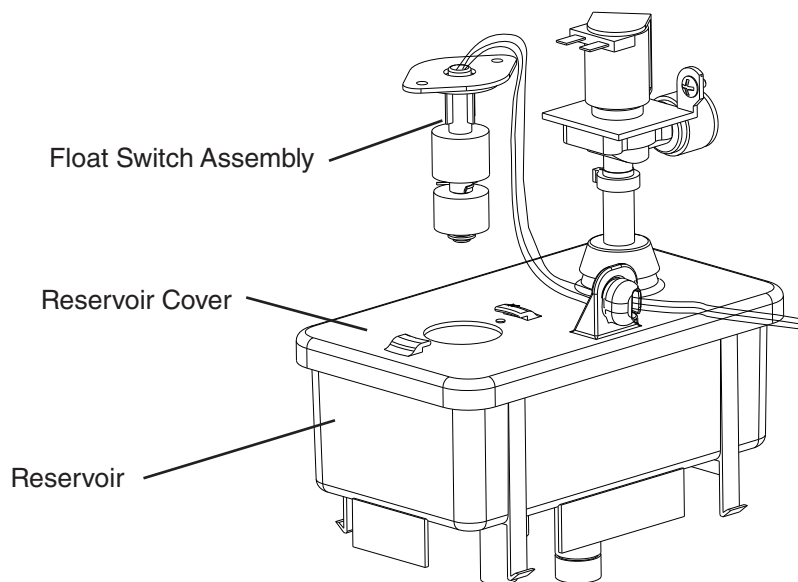

Fig. 8
- 2) Remove FS assembly from the reservoir cover. See Fig. 8.